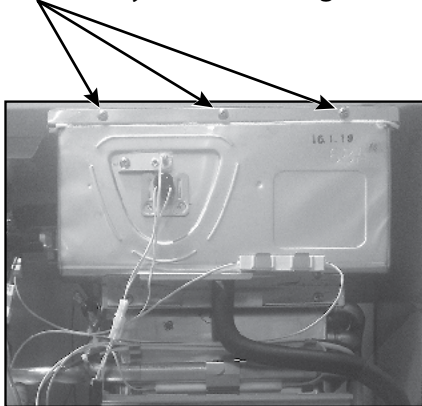

Figure 63.
- 12.8 Remove the three screws at the top of the secondary heat exchanger that are securing it to the case. Refer to Figure 63. Save for future use.
- 5. Insert and hand tighten three (3) screws as shown in Figure 63, page 64. This will secure the heat exchanger assembly to the heater case.**